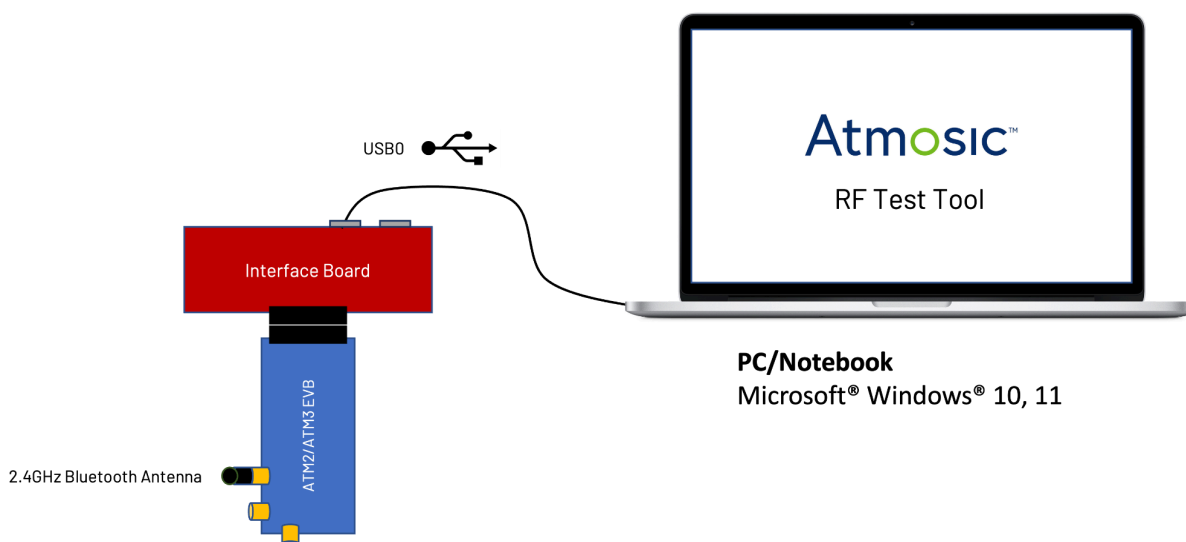

Figure 1 - RF Test Tool Hardware Environment for the ATM2/ATM3
- Figure 1 - RF Test Tool Hardware Environment for the ATM2/ATM33
Figure 1 shows the connection setup between the PC, the Interface board, and the EVK for the ATM2/ATM3.